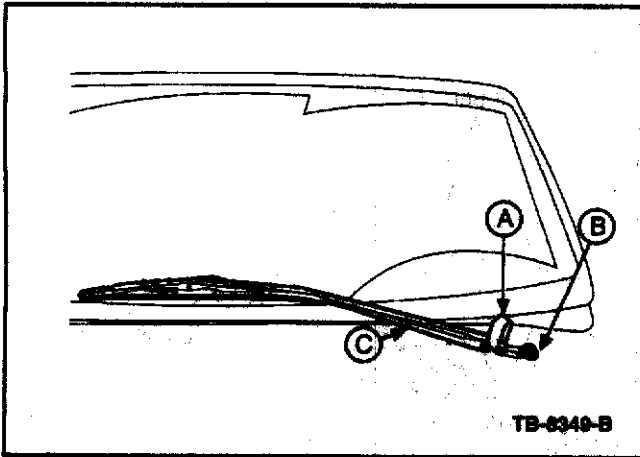

Figure 3 - Article 06-14-10
1. Remove the wiper pivot arm. (Figure 3)